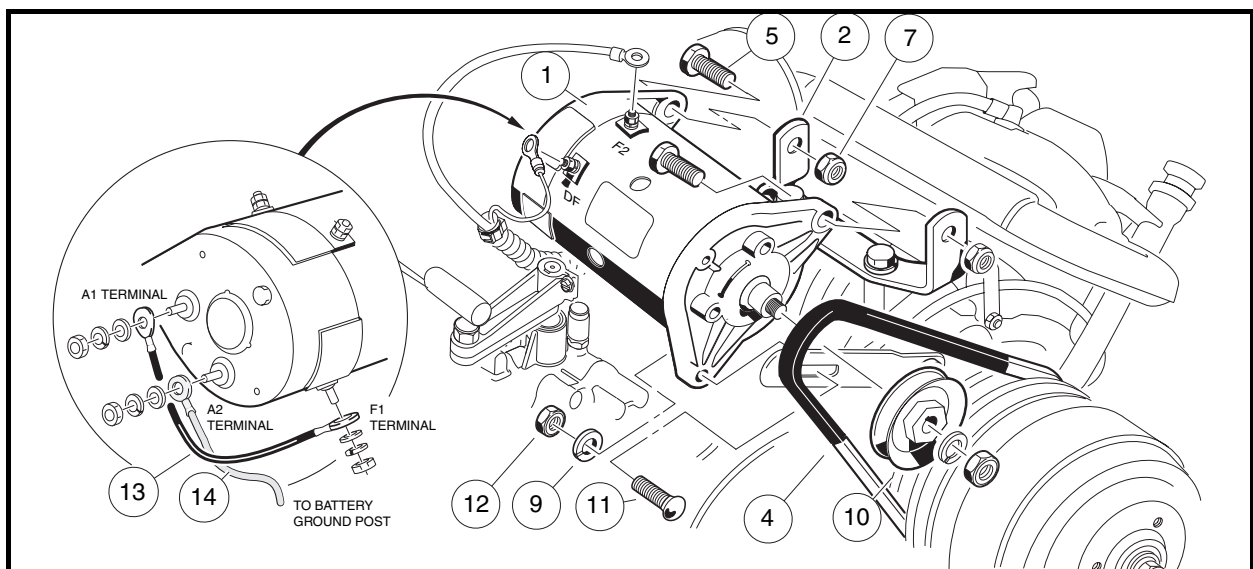

Figure 14-1 Starter/Generator Removal
3. Disconnect the wires from the starter/generator (1). Mark wires before disconnecting. Loosen the pivot nuts (7) and bolts (5) (Figure 14-1, Page 14-1).
4. Remove the mounting/adjustment nut (12), washer (9) and bolt (11). Lower the starter/generator and remove the belt (4) from the pulley (10).